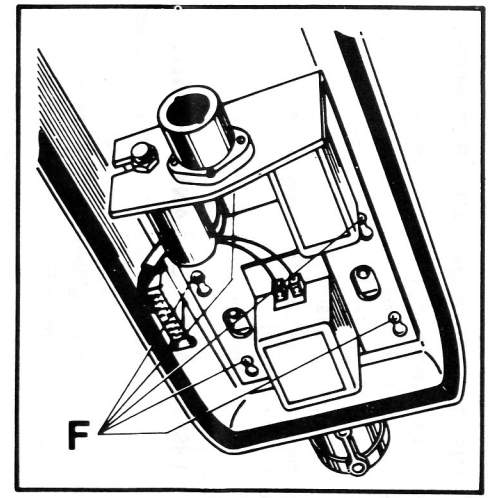

Fig. 5
4. INSTALLATION OF LANTERNS WITH INTEGRAL CONTROL GEAR "S" VERSIONS (FIG. 5).